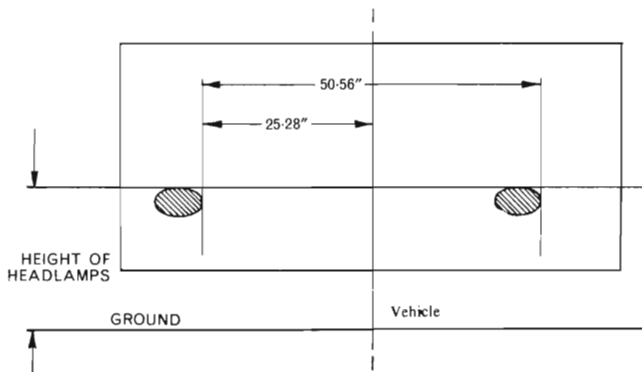

Fig. 2. Low beam adjustment pattern (dual round).
- (1) Follow steps (1) and (2) of Para. 3.
- (2) With headlamps on low beam, the top of the high intensity portion of the beam pattern should be at the horizontal centreline and the right edge at the vertical centreline (as shown in Fig. 2).